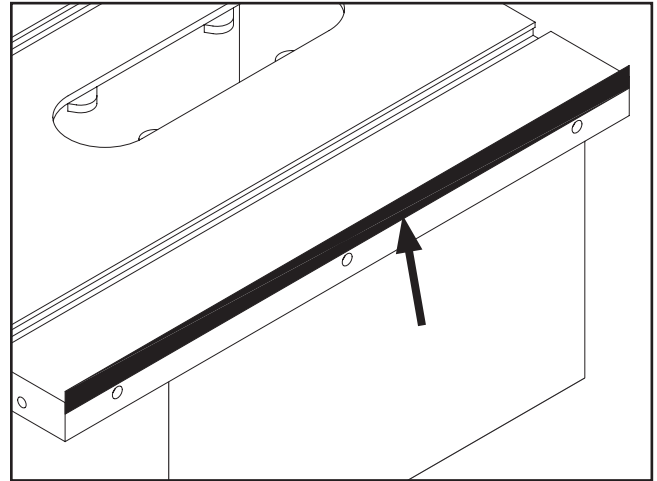

Figure 7. Masking tape location for adjusting the extension wing down.
- If either extension wing tilts up, loosen it and place a strip of masking tape along the top edge of the table (**Figure 7**).